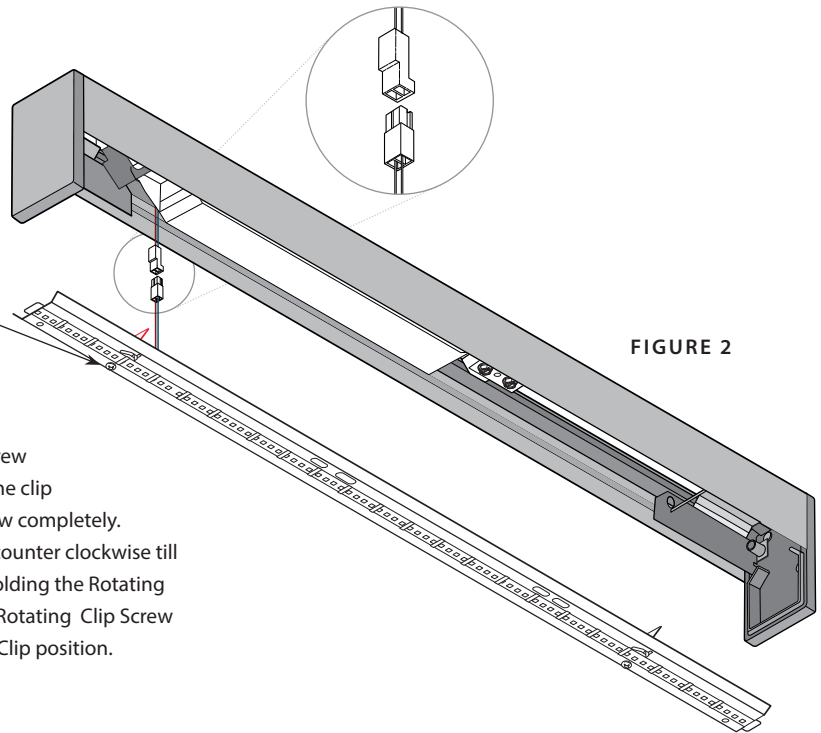

FIGURE 2
2. Unlock LED tray from clips and remove the LED tray by unplugging the LED lead wire disconnects on first fixture, remove LED Tray (figure 2).
1. Unlock LED tray from clips and remove the LED tray by unplugging the LED lead wire disconnects on first fixture, remove LED Tray (figure 2, page 4).